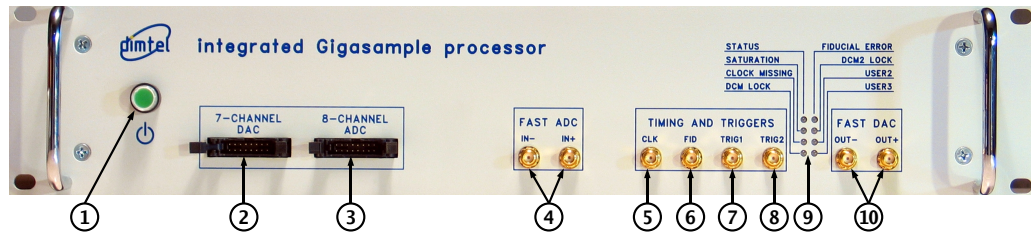

Figure 2: Front panel features
2. Connect RF clock at -3 dBm nominal level (Fig. 2, item 5);
3. Connect single-ended high-speed ADC input signal to **Ain+** (Fig. 2, item 4). The FS swing of this signal should be 190 mV peak-to-peak;
4. Connect a $50\ \Omega$ terminator to **Ain-** (Fig. 2, item 4);
5. Connect high-speed DAC output(s) (Fig. 2, item 10) to the appropriate back-end unit;
9. Push the power button (Fig 2, item 1) to turn on the system;
11. Push the power button (Fig 2, item 1) to turn the system off;
- Connect the 16-pin ribbon cable between the 7-channel **DAC** (Fig. 2, item 2) and the 8-channel **ADC** (Fig. 2, item 3);
- Connect 500.1 MHz clock to the **RF** clock input (Fig. 2, item 5);
- Terminate Ain- fast **ADC** input (Fig. 2, item 4);
- Terminate Aout- fast **DAC** output (Fig. 2, item 10);